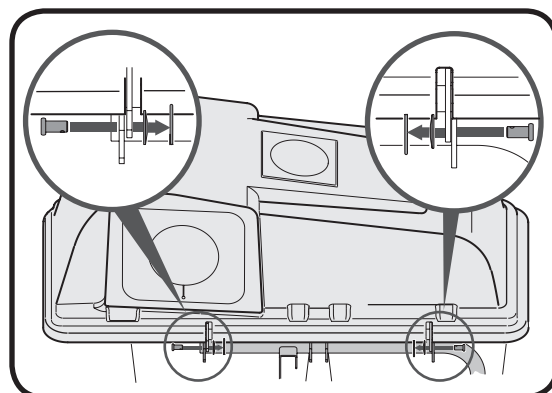

Figure 4-4
Insert the clevis pins from the outside in as shown in the inset images of Figure 4-4.
5. Insert the clevis pin through the hinge on the support tube assembly and then through the grass bag cover. See Fig. 4-4.
6. Secure with belleville washer and hairpin clip with the crown side of the washer going against the hairpin clip. See inset images in Fig. 4-4.
NOTE: Insert the clevis pins from the outside in as shown in the inset images of Fig. 4-4.